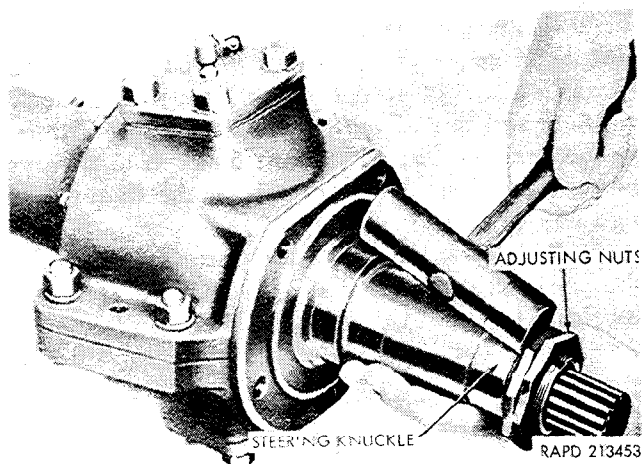

Figure 2-139. Removing steering knuckle.
(3) If the steering knuckle cannot be removed by pulling it from the flange, temporarily install the wheel bearing adjusting nuts on the knuckle and strike the nuts with a plastic hammer to free the steering knuckle (fig. 2-139). Remove the knuckle, outer shaft, and female portion of the universal joint. Separate the parts.